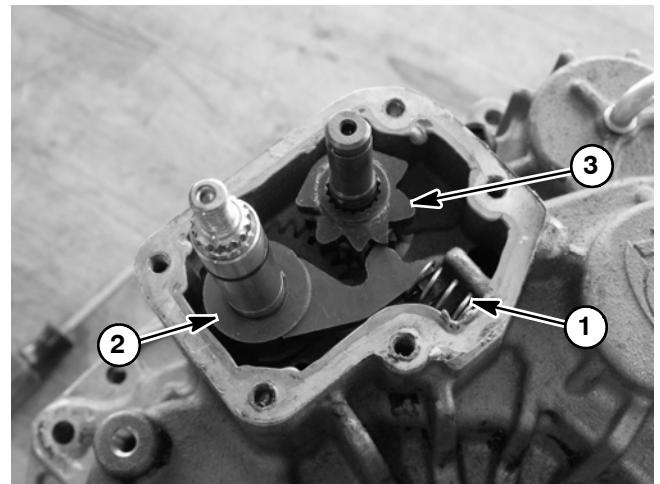

Figure 57
6. Note location of shift assembly components for assembly purposes (Fig. 57).